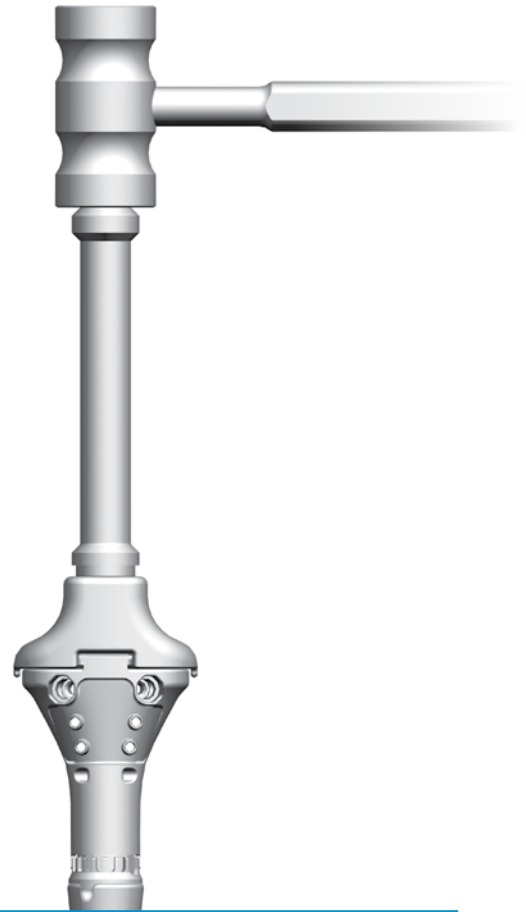

Fig. 25
- Use the impactor assembly and a Mallet to tap the construct until fully seated while observing the vertical mark on the bone to assess the rotational alignment (Fig. 25).